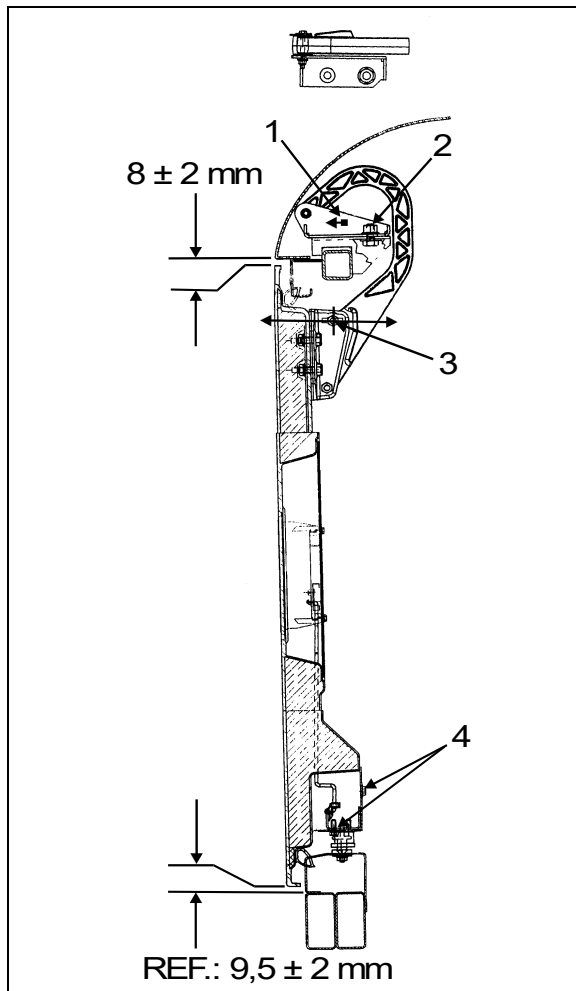

FIGURE 69: DOOR HINGE
2. Loosen nut (2, Figure 69).
3. Move part (1, Figure 69), as close as possible to exterior of coach, so as to have enough clearance for proper door opening.
4. Tighten nut (2, Figure 69).
5. Loosen nut (3, Figure 69). Hinge allows the door to be shifted "IN or OUT".
- Adjust door panel to have the same gap space as neighboring panels or refer to Figure 49 for specified gap space. Only if necessary, use the adjustment allowed by moving part 1, Figure 69.